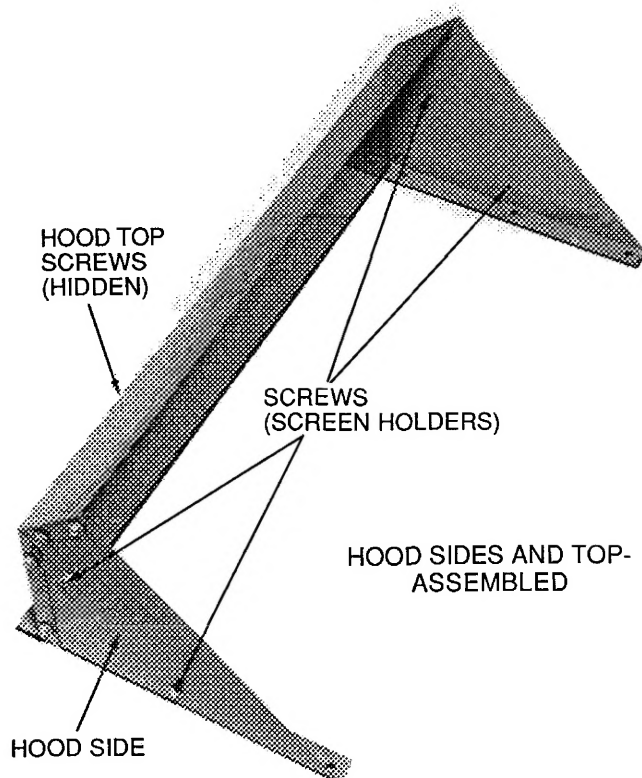
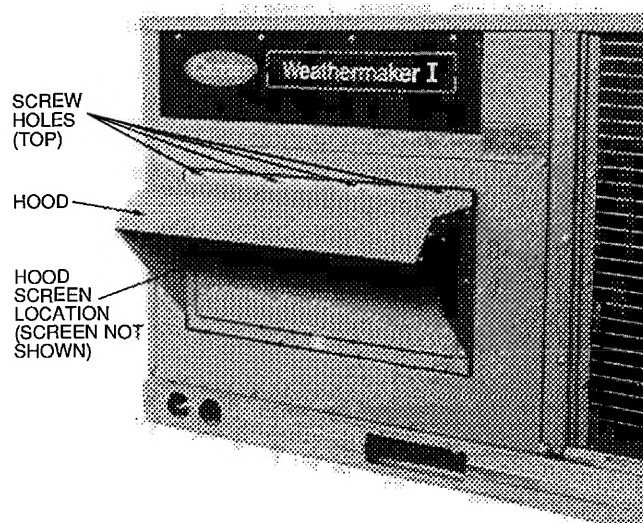

Fig. 13 — Outdoor-Air Hood Details
Fig. 14 — Outdoor-Air Damper with Hood Attached
5. Place hood on front of evaporator coil access panel. See Fig. 13 for hood details. Secure top of hood with the 4 screws removed in Step 3. See Fig. 14.
7. Align screw holes on hood with screw holes on side of manual outdoor-air damper. See Fig. 13 and 14. Secure hood with 6 screws from Step 6.
9. Remove and save screws currently on sides of hood. Insert screen. Secure screen to hood using the screws. See Fig. 14.
6. Place hood on front of evaporator coil access panel. See Fig. 13 for hood details. Secure top of hood with the 4 screws removed in Step 3. See Fig. 14.
8. Align screw holes on hood with screw holes on side of two-position damper. See Fig. 13 and 14. Secure hood with 6 screws from Step 7.
10. Remove and save 4 screws currently on sides of hood. Insert screen. Secure screen to hood using the 4 screws. See Fig. 14.